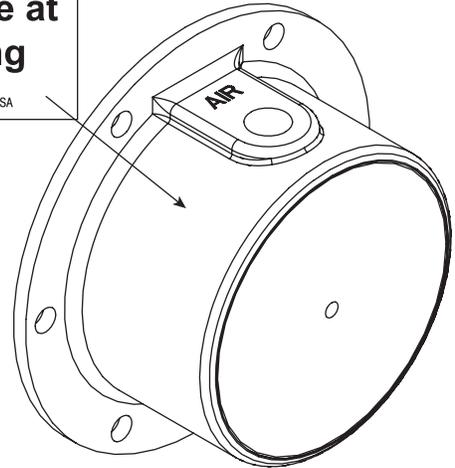

Figure 25a. Recommended decal mounting location
2. If decal L918 is included in the literature packet, install it on the hubcap as shown in figure 25a.